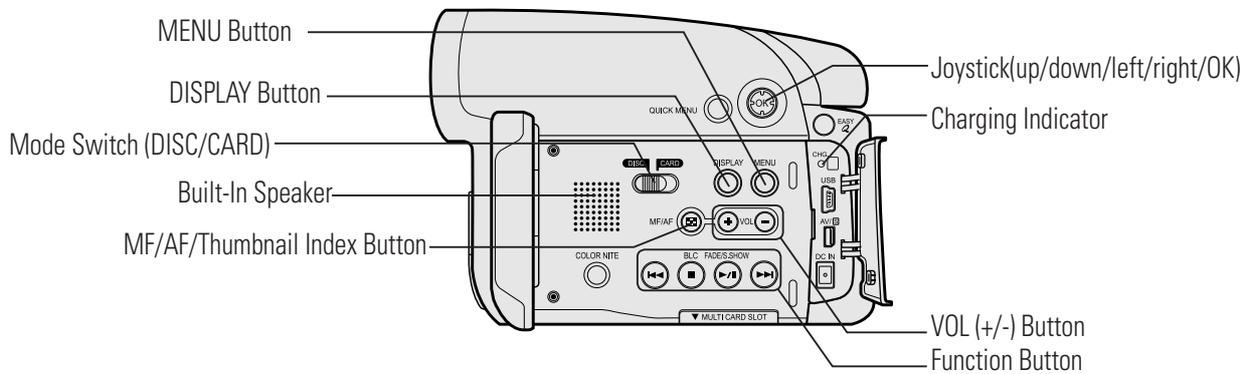

Fig. 3-1
- ❶ Press and hold the "STOP" and "Joystick Right" buttons on the video camera at the same time for more than 5 seconds.
- ❷ When monitor OSD appears as shown Fig. 3-1, the Camera adjustment mode has been activated successfully.